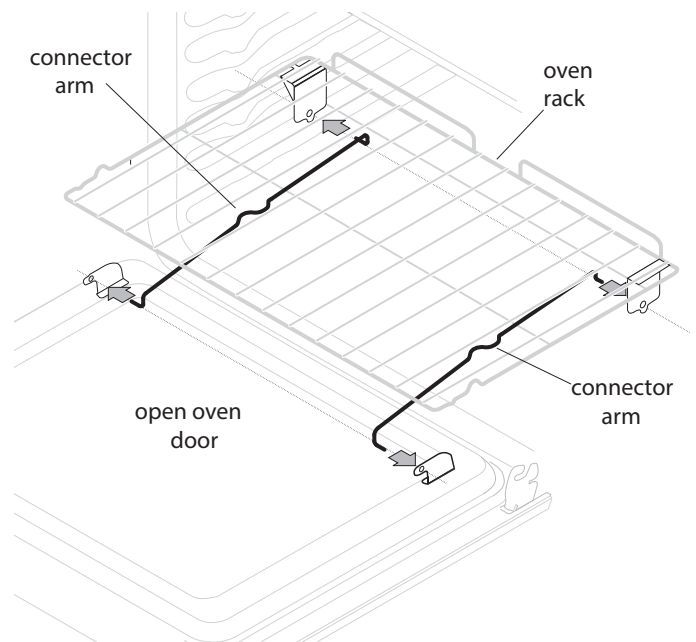

**Figure 16: Rack positions**
3. Place the oven rack in positions 1, 2, or 3 (see Figure 16 to verify positions)..